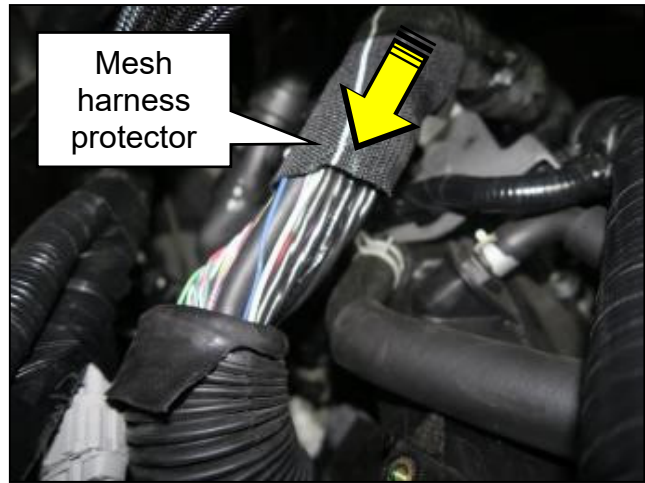

Figure 31
29. Place the mesh harness protector over the wires (Figure 31).